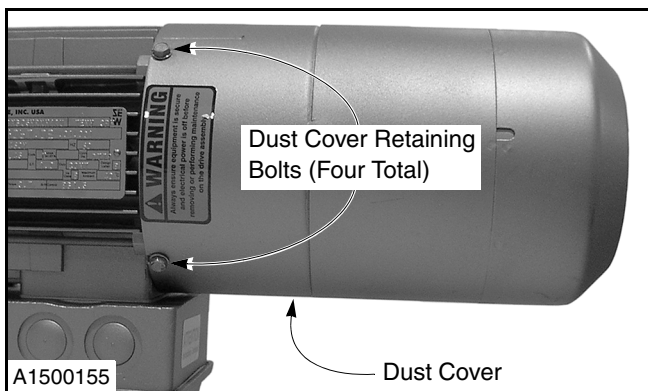

Figure 31
2. Loosen the retaining bolts securing the brake dust cover to the motor assembly. Remove the cover. (See Figure 31.)